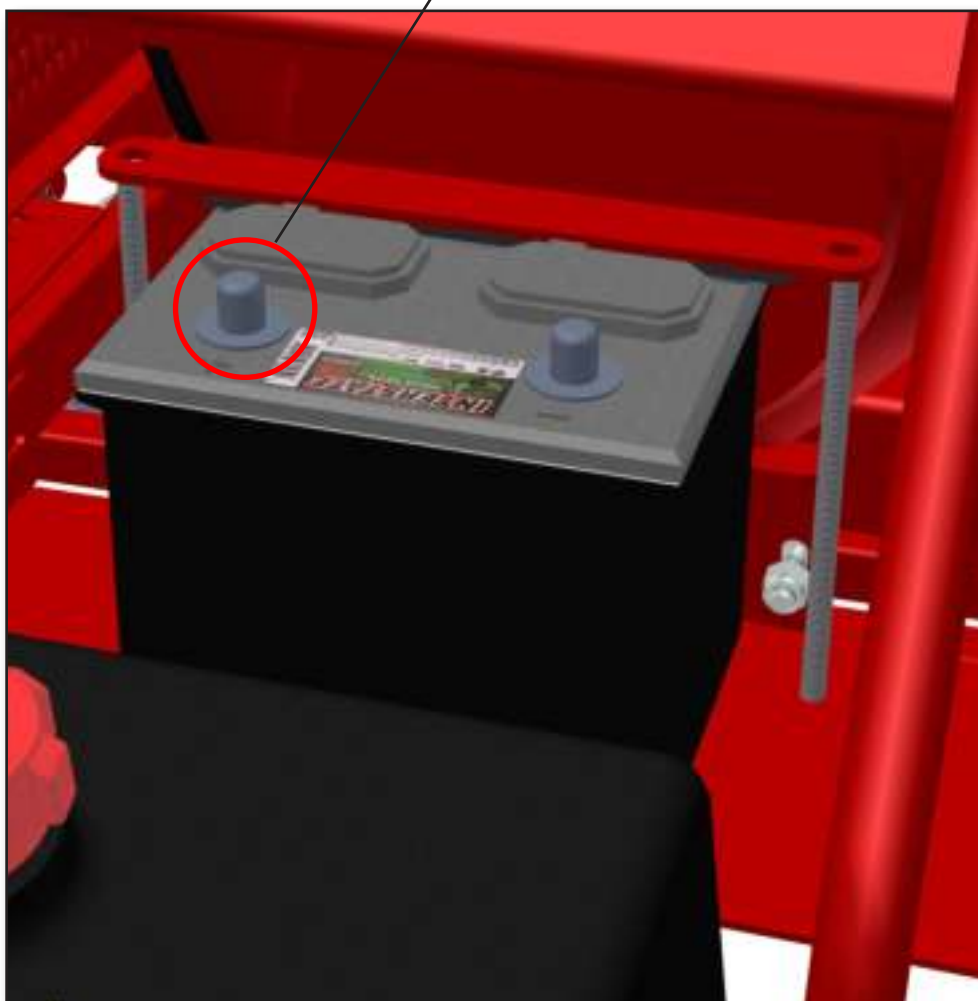

FIGURE 3.3.1
- 2) Disconnect the battery. Refer to Figure 3.3.1.